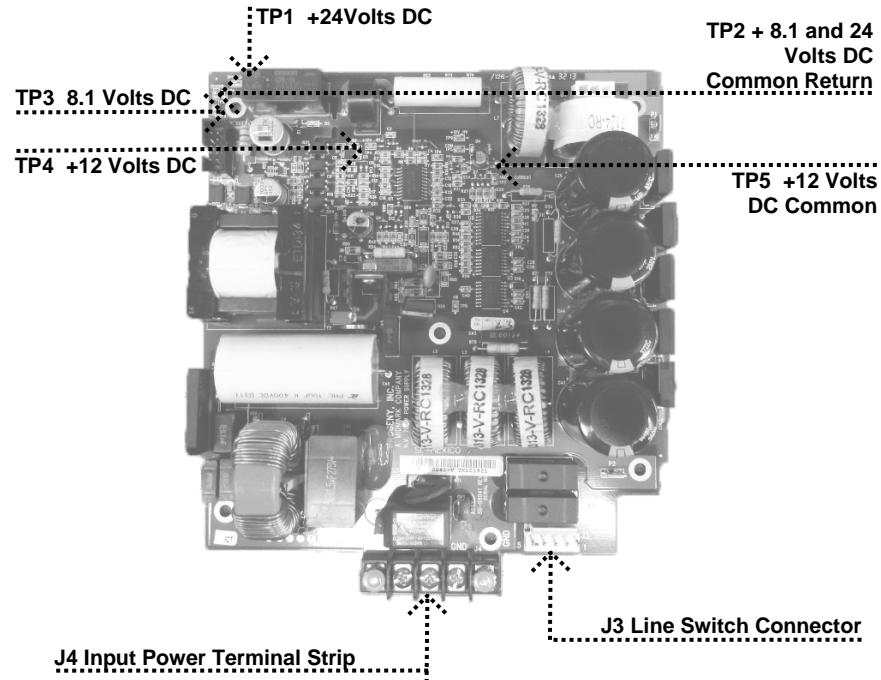

Figure 49
1. On the Power Supply Board 30-08041, check for the presence of 100 to 230 volts AC at J4, the Input Power Terminal Strip, as shown in *Figure 49*. If power is absent, check that the Preva is connected to line power.
2. On the Power Supply Board 30-08041, measure incoming power at J3, the Line Switch Connector, as shown in *Figure 49*. Positions 2 and 4 carry the line voltage before the Line Switch, and positions 1 and 3 carry the line voltage after the Line Switch. Voltage at the input side of the switch, but not at the output, requires replacement of the Line Switch E1-19000.
6. On the Power Supply Board, use TP2, as a common test point, and check TP1 +24 volts DC and TP3 8.1 volts DC, as shown in *Figure 49*. Then use TP5 as the common return to check TP4 for the presence of +12 volts DC. Should any of these voltages not be present, replace the Power Supply Board. If each voltage is present, inspect the condition of the ribbon cable between the Power Supply Board and the Logic Board. If the cable is undamaged and seated properly, replace the Logic Board.